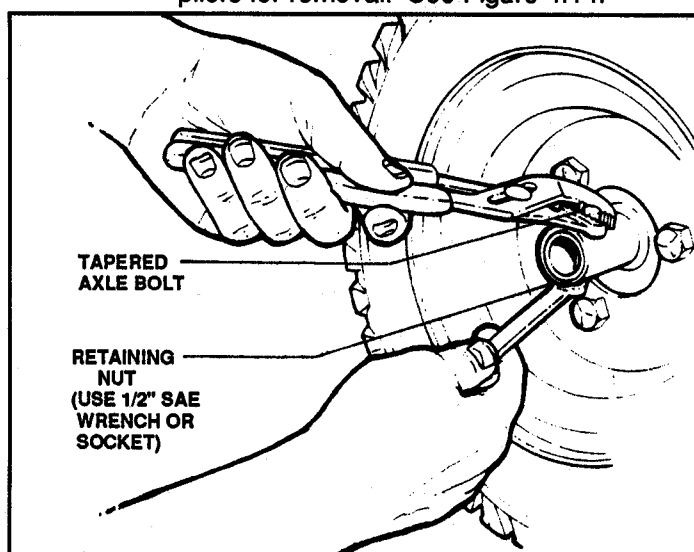

FIGURE 4.14
3. Remove nuts from tapered axle bolts on both drive hubs. Use 1/2" socket and pliers for removal. See Figure 4.14.